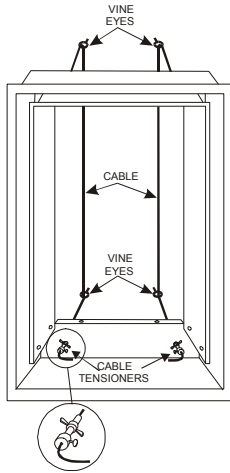

Figure 54
5. Place the Freedom Surround into the prepared opening, threading the cables through the vine eyes, and through the holes in the base of the surround, as shown in **Figure 54**.